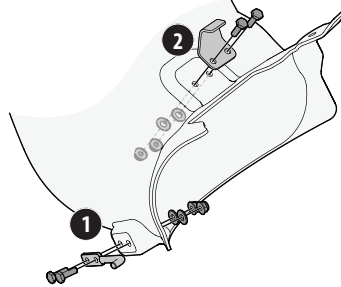

Figure 19
- From the outside of the boot, align mounting rod (747-09890) and two hex head screws (710-3015) with the holes at the bottom front of the boot and secure from the inside of the boot with two flat washers (1751) and two flange lock nuts (712-04064) from hardware pack 689-02579. See (1) in Figure 19.
- From the outside of the boot, align the boot bracket (783-11968) and two hex head screws (710-3015) with the holes on top of the boot and secure from the inside with two flat washers (1751) and two flange lock nuts (712-04064) from hardware pack 689-02579. See (2) in Figure 19.